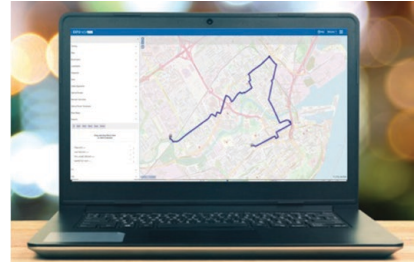

Figure 23: Import, draw and edit routes from any workstation through web browser
- Draw cable routes and interconnecting sites directly over the background map from any device on a web browser (no dedicated workstation application required) by any authorized user (Figure 23)